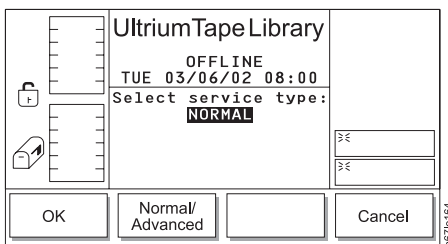

Figure 4-131. Start Dialog
2. Press the button below the **Start** softkey. The Start Dialog displays (see Figure 4-131) with the NORMAL service type highlighted.